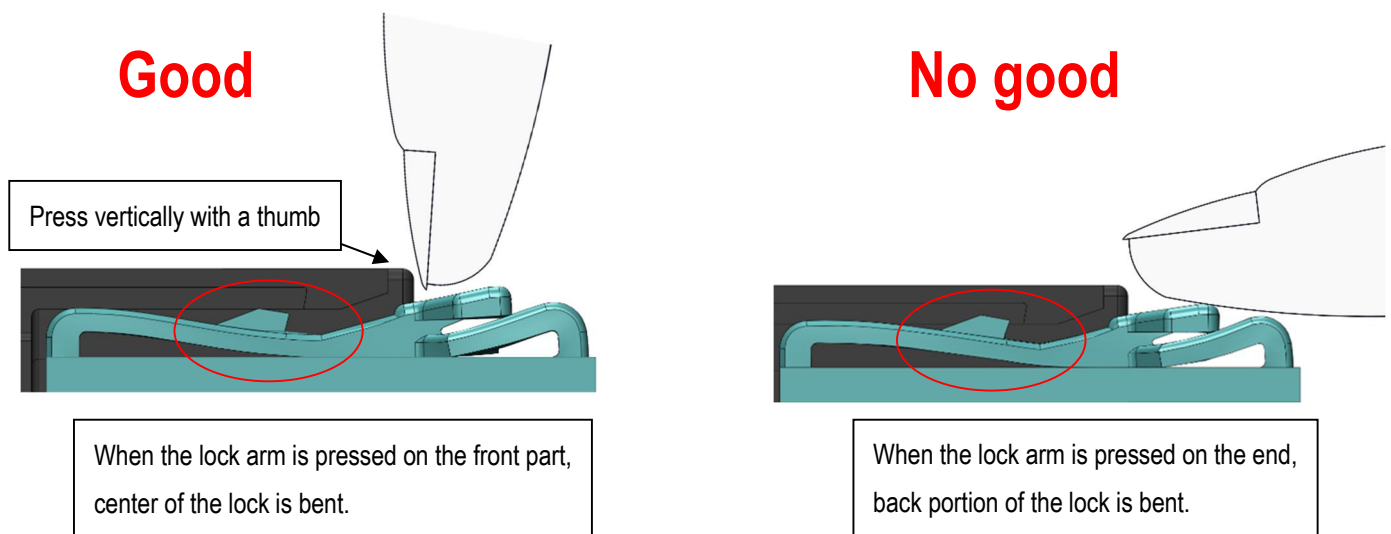

Fig51. Mechanism of the lock
- ④ Pressing down the end of the lock arm may not release the lock fully (See Fig. 51)